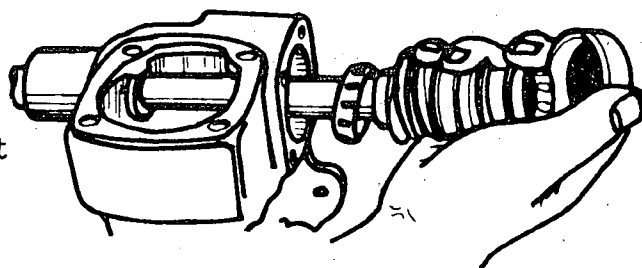

Fig. 3
- c) Remove the worm shaft (fig. 3).